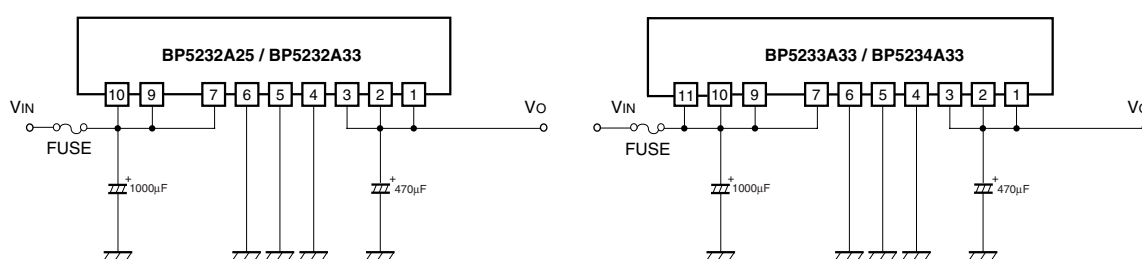

Fig.3
- (1) The basic application examples are shown in Fig.3. The externally installed parts are only the input and output smoothing capacitors.